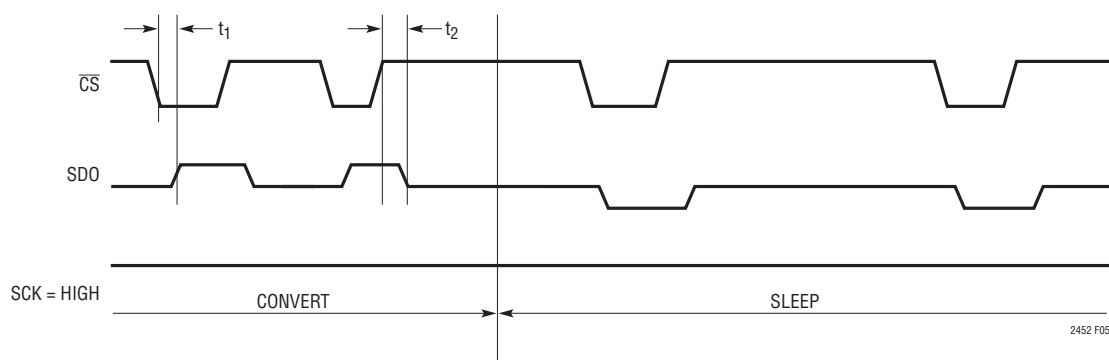

Figure 5. Conversion Status Monitoring Mode
**Note 8:** See Figure 5.
indication of a completed conversion cycle. An example of such a sequence is shown in Figure 5.